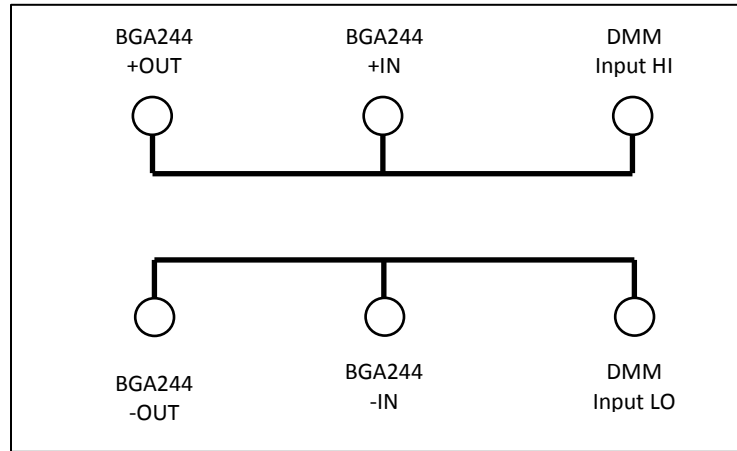

FIGURE 35: SETUP FOR ANALOG I/O VOLTAGE TEST
1. Connect Analog Output 1, Analog Input 1 (C7) and the DMM HI input as shown in Figure 35. Set the DMM to measure DC Volts at maximum resolution. Select auto range.